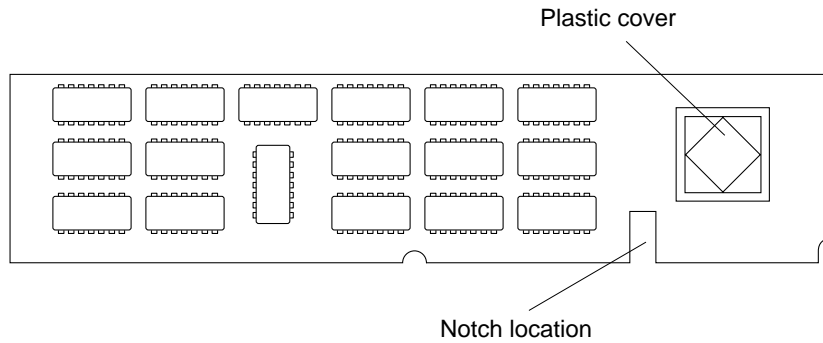

FIGURE 11-28 VSIMM, Back View
5. If installing a VSIMM, position the VSIMM with the plastic cover facing the system unit front panel. The notched portion of the VSIMM should be near the center of the system board (FIGURE 11-28).